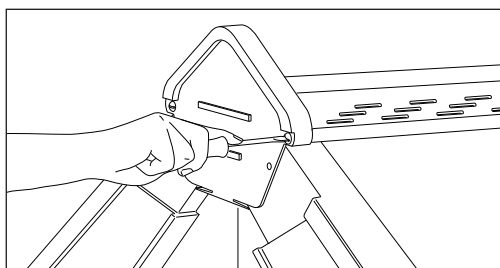

Fig 7 Screw fix ridge end cap
- 14 If required, trim flange of Ridge End Cap to fit between top course verge units (Figs 9 and 10). Screw ridge end cap to end of dry ridge batten locating 25mm x 8g stainless steel screws into end of circular beads on upper flange (Fig 7).